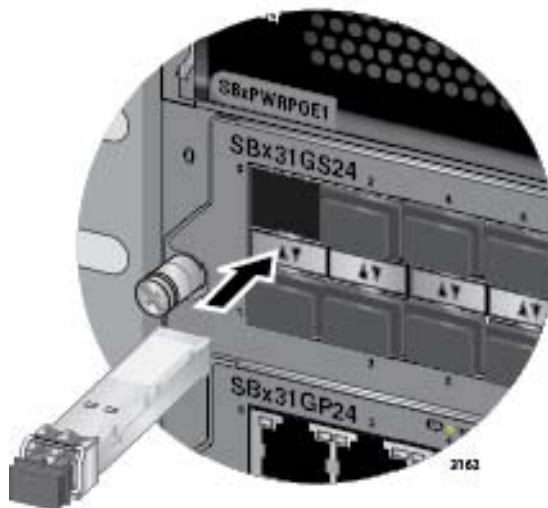

Figure 84. Inserting an SFP Transceiver in the AT-SBx31GS24 Line Card
4. Slide the transceiver into the slot until it clicks into place, as shown in Figure 84.